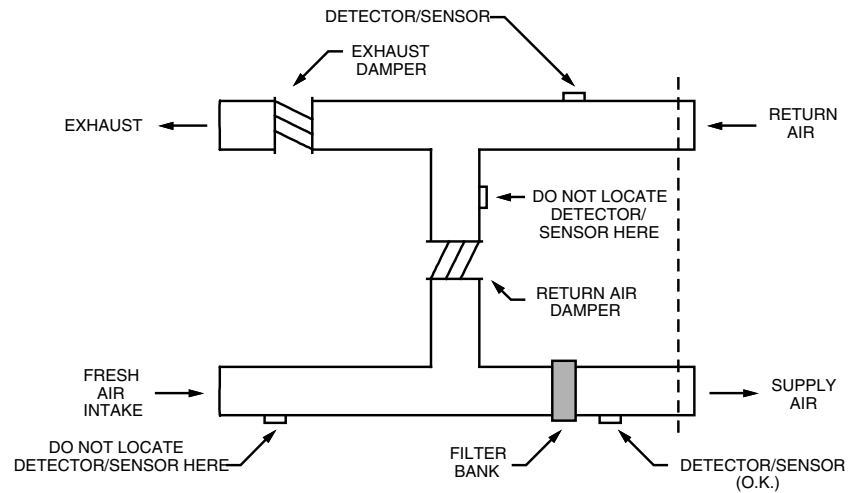

Figure 11. Duct Housing Placement - Location of Dampers
2. Locate duct housings so that dampers do not restrict air flow at the detector/sensor location. See Figure 11.
3. Locate air duct detectors/sensors on the return or supply duct of the equipment's air handling system. However, detectors/sensors should NOT be installed in the return air damper branch. See Figure 11.
5. Locate air duct detectors/sensors on the *downstream side* of filters to sense fire in filters. However, should the filters block, sufficient air flow may not be available for proper air duct detector/sensor operation. See Figure 11.